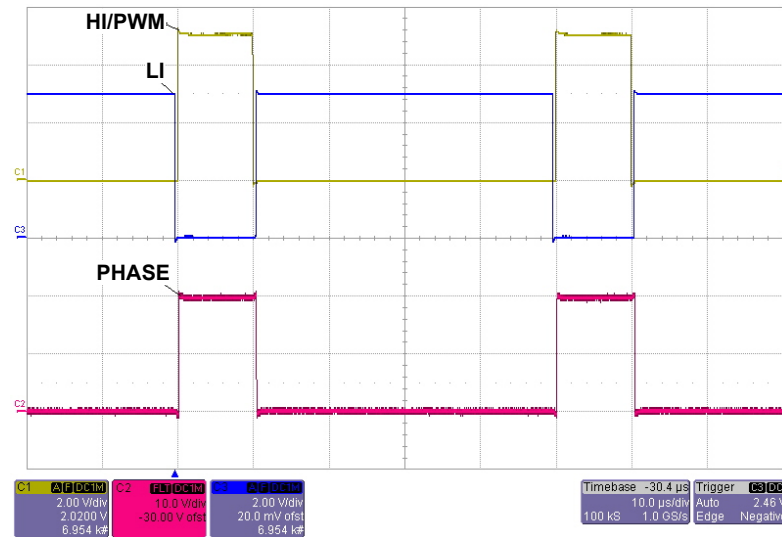

Figure 8. HI/PWM, LI, and Phase Signals
- (6) Turn on $V_{CC} = 5V$.
- (7) Measure 12V $\pm 5\%$ on the VDD pin of TB6 relative to the GND pin.
- (8) Press the Reset button. The four LEDs flash one after another, and then turn off.
- (9) Press the Start/Stop button. LED0 is flashing and HI/PWM and LI signals are active.
- (10) Turn the potentiometer CW until the waveform shown in Figure 8 appears.